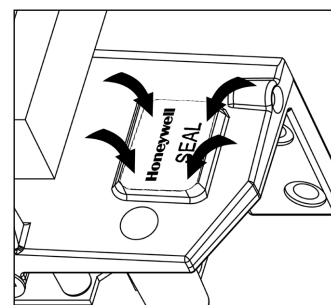

Figure 57.
3. With very light pressure, push down on the adhesive calibration security seal label to ensure a firm adhesion is created (see Figure 57).